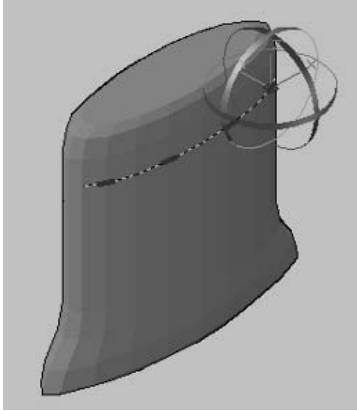

Figure 29-55 Edges selected to be rotated
2. Select the required edges from the mesh model, as shown in Figure 29-55; the rotate gizmo is displayed on the first selected edge.